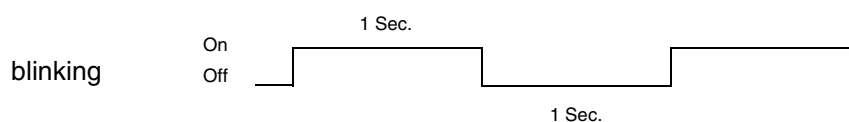

Fig. 2.163 Visual signalling LOS/LFA/Training of the STU4
1) Visual signalling according to Fig. 2.163